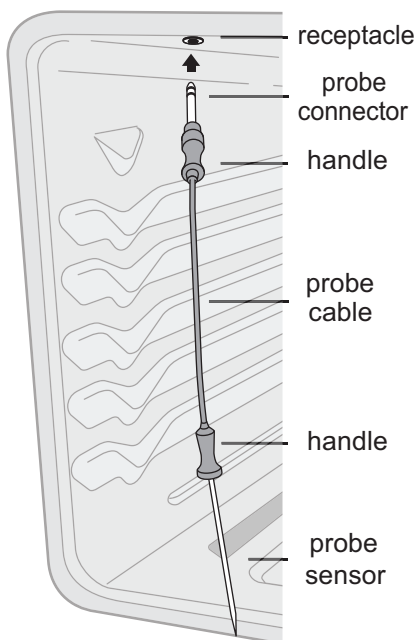

Figure 29: Using the probe
Do not use kitchen utensils to pull on the probe cable or handles. Always insert and remove the probe using the provided handles, as shown in Figure 29, and always use a pot holder to protect hands from possible burns.
2. Plug the connector end of the probe all the way into the probe receptacle while the oven is still cool. The receptacle is located on the upper left front oven cavity wall (See Figure 29).